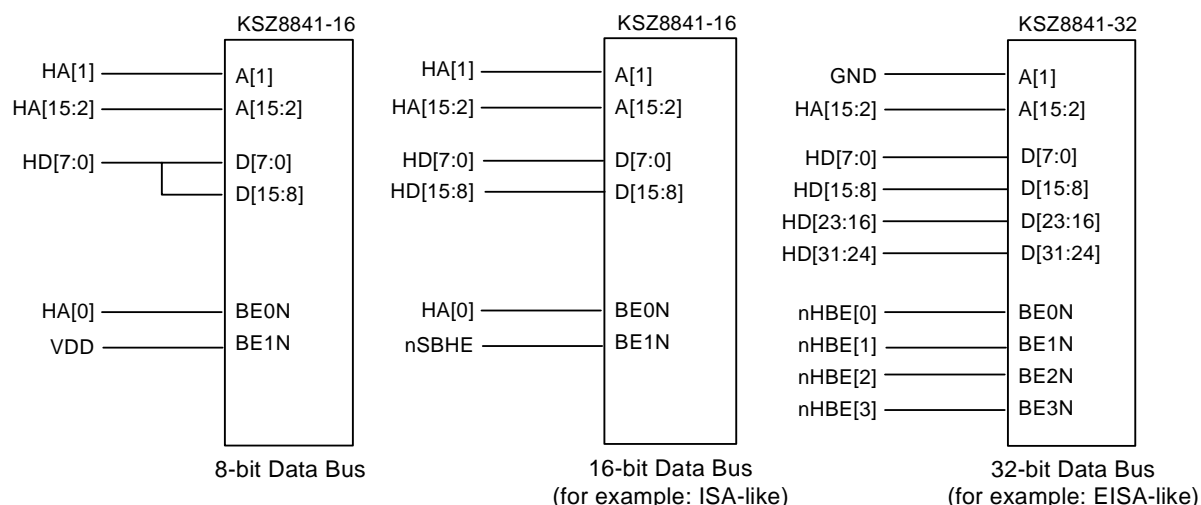

Figure 11. KSZ8841M 8-Bit, 16-Bit, and 32-Bit Data Bus Connections
Figure 11 shows the connection for different data bus sizes.
2. Internal byte swapping is not implemented and word swapping is supported internally. Refer to Figure 11 for the appropriate 8-bit, 16-bit, and 32-bit data bus connection.